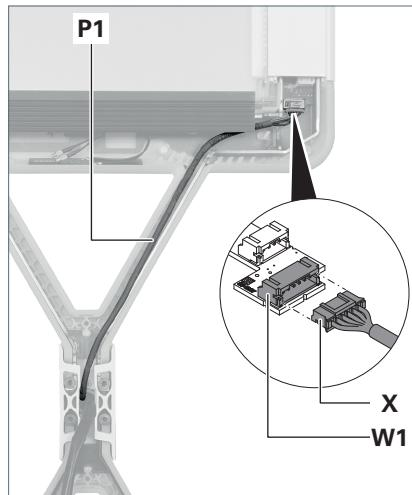

Fig. 10: Connecting the control cable.
- ▶ Lay the control cable **P1** from the column into the supporting arm of the luminaire head 1, see Fig. 10.